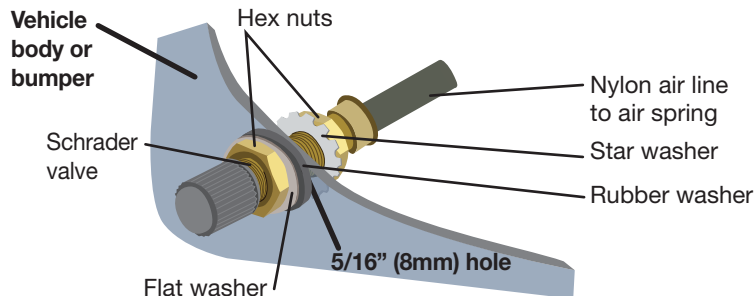

fig. 18
3. Install the Schrader valve in the chosen location (Fig. 18).